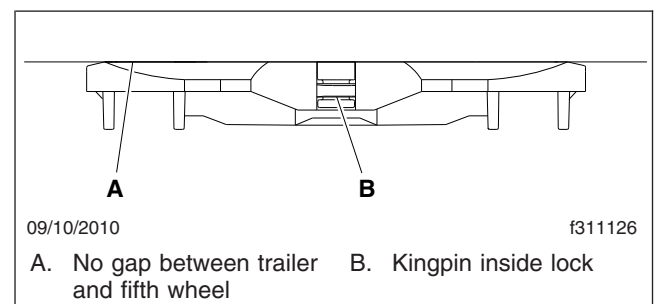

Fig. 17.4, Coupling Inspection
8. Perform a coupling inspection, checking that there is no gap between the bottom of the trailer and the fifth wheel, and that the kingpin is securely locked. See Fig. 17.4.
10. Apply the tractor parking brake, then perform a physical check for positive kingpin lock, and that there is no gap between the trailer and the fifth wheel. See Fig. 17.4.